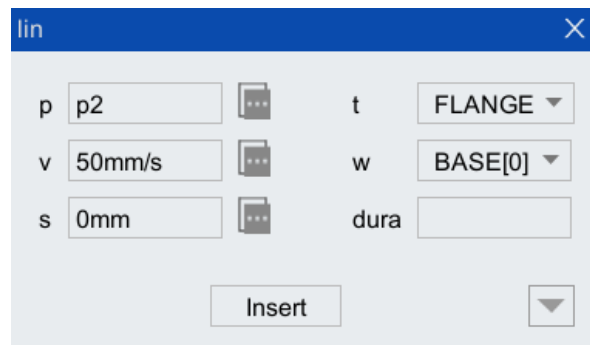

Figure 10-9 The lin instruction configuration interface
Step3. Move the cursor between "mpstart" and "mpend". Click [lin] to pop up the lin configuration interface (as shown in Figure 10-9), complete the parameter configuration, and click <Insert> to generate the arc on point instruction.